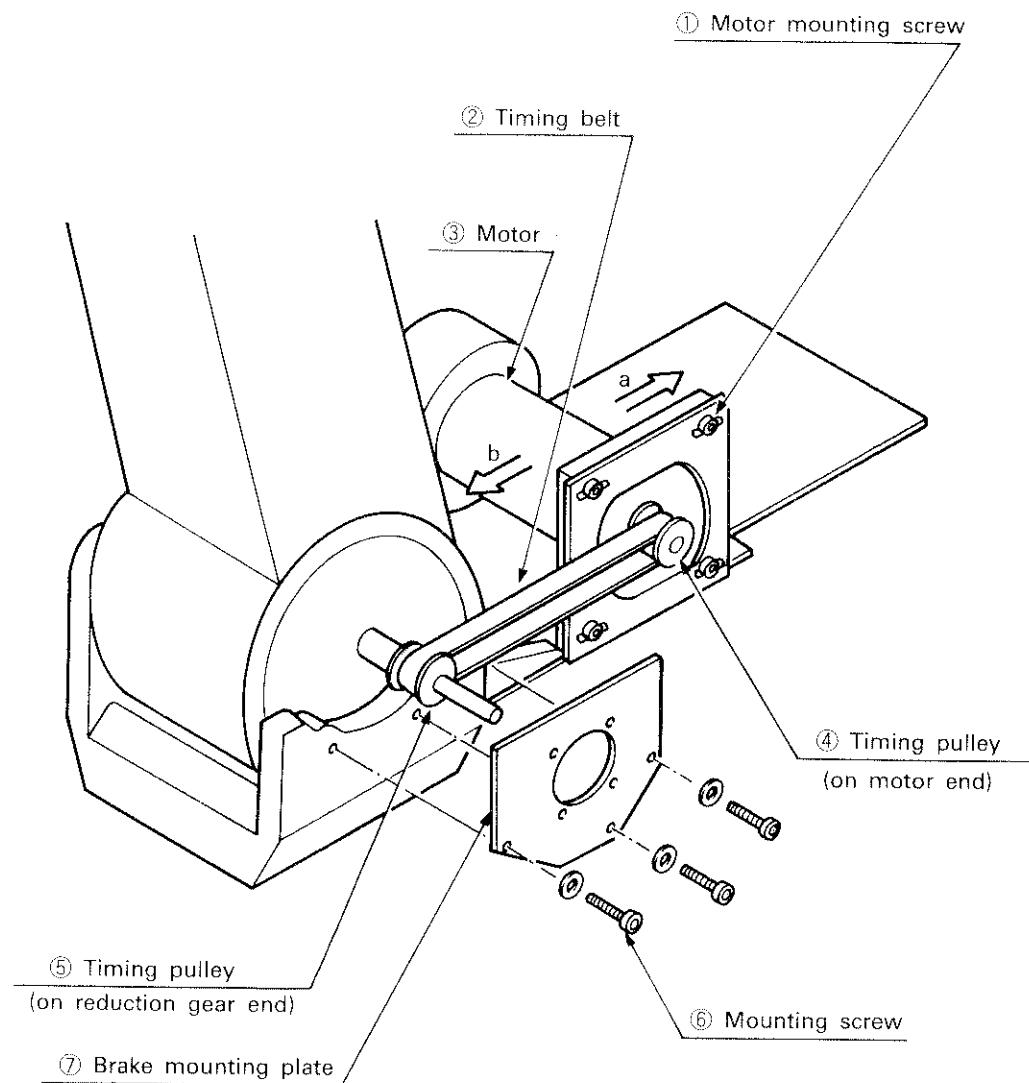

Fig. 4.3.11 Checking, Adjusting, and Replacing the Elbow Drive Timing Belt
- (1) Fig. 4.3.11 outlines the inspection procedure of the elbow drive timing belt.
- (2) Remove the upper shoulder cover by referring to 3.2 Removal of the Covers.
- (3) Visually check the belt to make sure that it does not develop any of the symptoms given in (1) to (5), 3.4.1
- (1) Fig. 4.3.11 also outlines the adjustment procedure of the elbow drive timing belt.
- (2) Loosen the four motor mounting screws ①.
- (3) While feeling the tension in the timing belt ②, move the motor ③ in the directions shown by arrows "a" and "b". Note that the motor ③ is secured using the four screws in the slots so they can be moved in the slots.
- (4) Moving the motor in the direction shown by arrow "a" tightens the belt; moving it in the direction shown by arrow "b" slacks the belt.
- (5) Do not move the motor too far in direction "b", or the belt ② comes off the timing pulleys ④ and ⑤.
- (6) After the belt tension has been adjusted, tighten motor mounting screws ① securely. A loose motor mounting screw results in the belt slackening off.
- (1) Fig. 4.3.11 also outlines the replacement procedure of the timing belt.
- (2) Remove the brake by referring to 3.6.2 Checking, adjusting, and replacing the elbow brake.
- (3) Remove the three mounting screws ⑥ to remove the brake mounting plate ⑦.
- (4) Be careful, cables are secured to the brake mounting plate ⑦. Do not apply excessive force when removing the mounting plate.